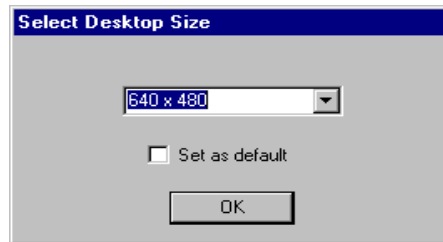

Figure 5-26 Select Desktop Size
1. Select **Maintenance > Menu > Panel Editor** to access Panel Editor. The Select Desktop Size dialog box displays to adjust and set the resolution of the screen, as shown in Figure 5-26: